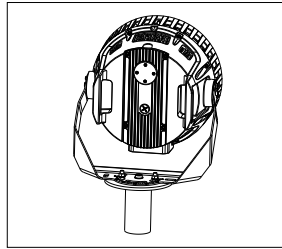

Figure 10
- Use an open-end wrench and a hex wrench to loosen the adjusting screw and adjust the angle (Figure 10).